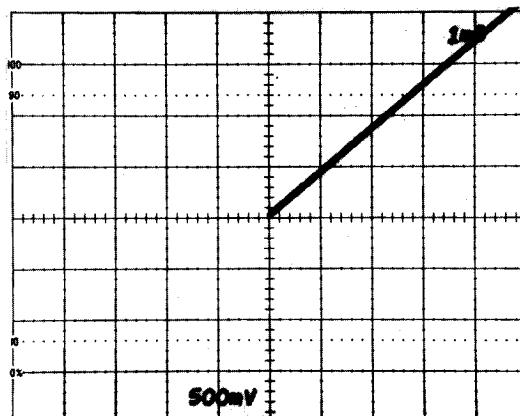

Fig. 4-1. Typical display for adjustment of Dly'd Swp Baseline (R452).
- Connect a 10X probe from the 7A15A Input to (TP) 462.
- ADJUST—R452, Dly'd Swp Baseline, to start display at CRT center (see Fig. 4-1).